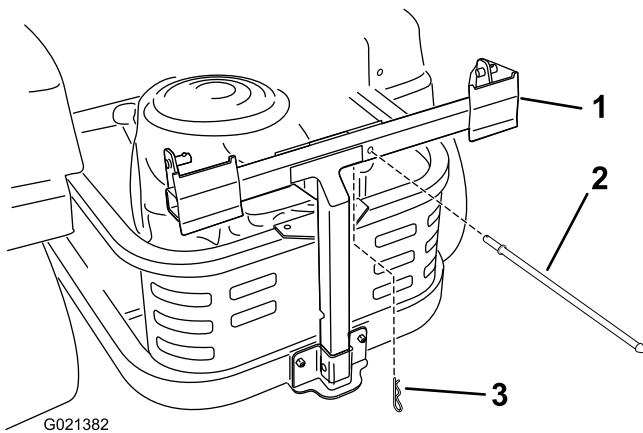

Figure 10
1. Install the hood rod to the bagger frame with a hairpin cotter pin. Install the hairpin cotter pin from the bottom (Figure 10).